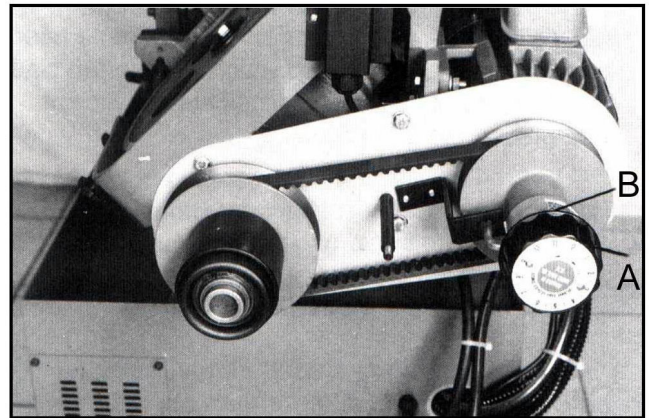

Fig. 4
3. Rotate the governor (A, Fig.4) forward or backward until the pointer reaches the correct read on speed scale (from 25M - 75M) (B, Fig.4) you need for the material to be cut.